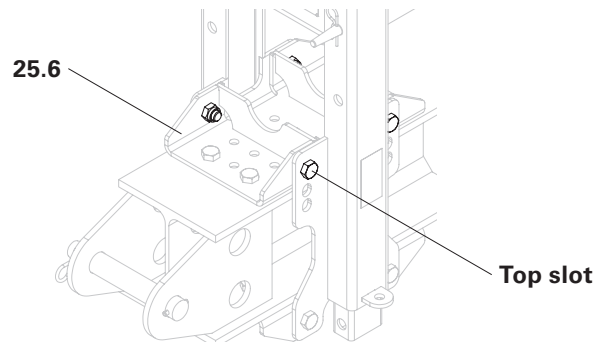

Fig. B4.03
- Ensure that the upper support plate (25.6) is fixed in the top slots. (Fig. B4.03)